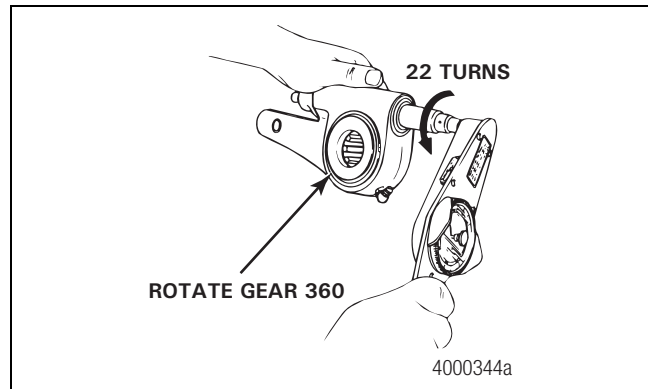

Figure 4.3
1. Use a lb-in torque wrench and turn the adjusting nut **COUNTERCLOCKWISE** (Figure 4.3) to rotate the gear 360 degrees, or 22 turns of the wrench, as you read the torque scale on the wrench. The value should be less than 45 lb-in (5 N•m) as you rotate the gear.